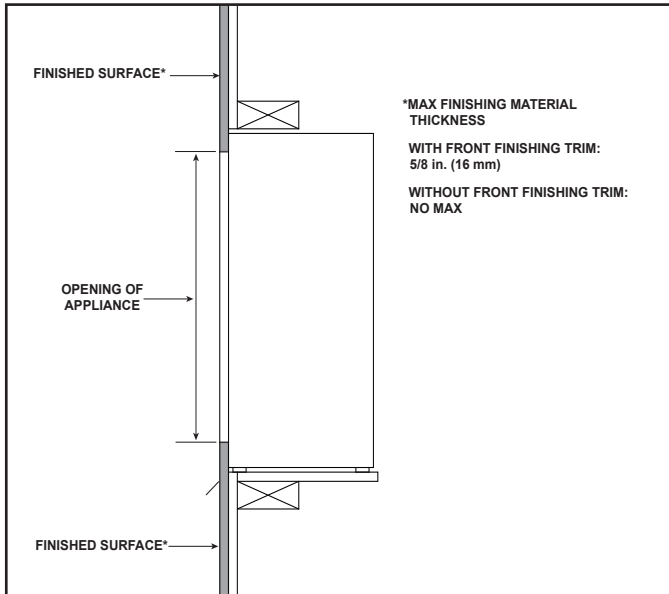

Figure 4.8 Finishing Around a Permanent Built-in
- See Figures 4.8 and 4.9 for more information regarding wall and enclosure construction required to prevent moisture penetration into the structure. The appliance will shed moderate amounts of water but is not waterproof.
Maximum finishing differ between built-in overlap and recessed installations. Refer to Figure 4.8 and 4.9.